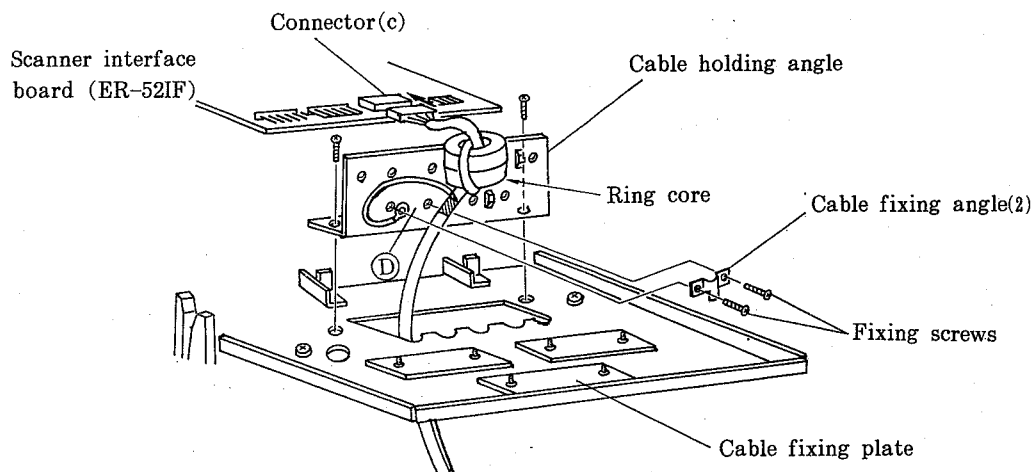

Fig.56
- (7) Use the cable fixing angle (2) to fix the IO-17SC2 cable and the grounding wire onto the section (D) of the cable holding angle. (See Fig.56 above.)
- (8) Restore and fix the cable holding angle to the cable fixing plate.
- (9) Reverse the procedure (2) to attach the rear cover.